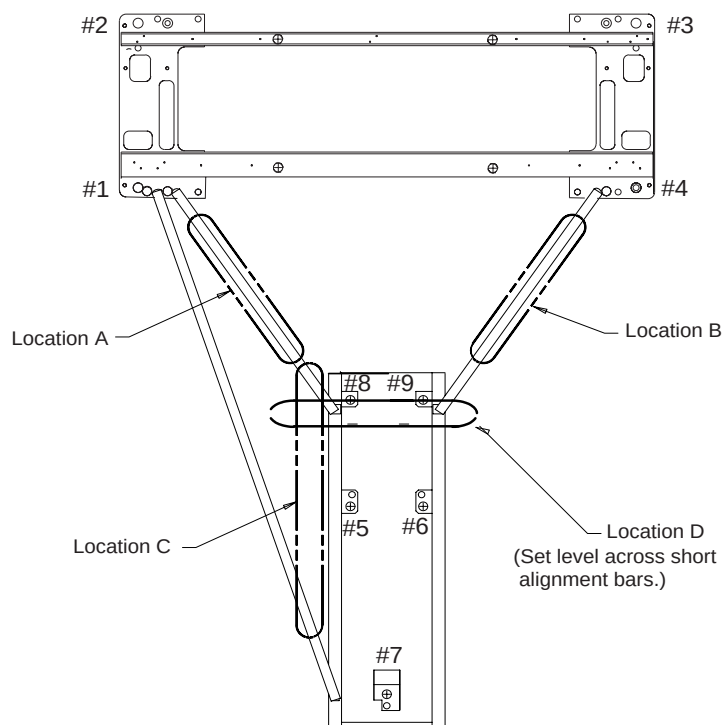

Figure 1-18 Table Base Gantry/Table Level Locations
- 1.) Loosen and unload adjusters #5 and #6. (Refer to Figure 1-18.) Do not remove shipping bolts.
- 5.) Systematically level locations A, B, and C (refer to Figure 1-18) by turning each adjuster. We suggest a maximum of 1 turn at a time.
- 8.) Screw down the adjusters at table Locations #5 and #6, until each rests tightly against its leveling pad. Tighten each adjuster a little more than hand tight, but take care not to unload any of the other table adjusters. It's important that locations #5 - #9 (Figure 1-18) all bear part of the table's load.
- 1.) Re-check bubble levels and loading first. Refer to Figure 1-18, on page 39.